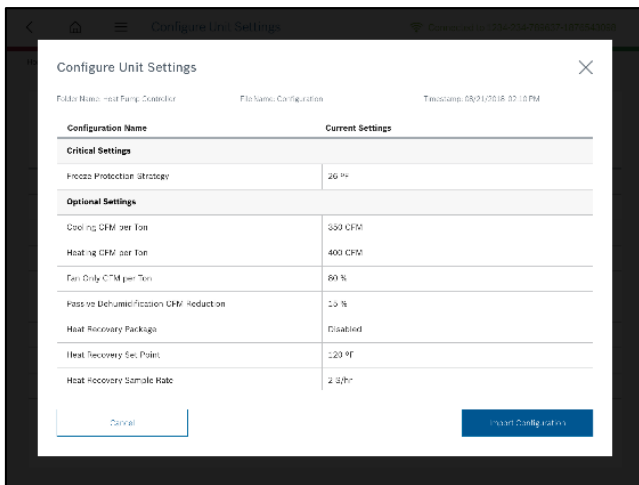

Figure 36: Configuration Details
- Choose any of the configuration file by tapping circle button and then tap “Import Configuration” button located in the bottom. A configuration may be view before importing press “View Configurations” button on the top of the page. It displays the data stored in selected configuration. See figure 36.